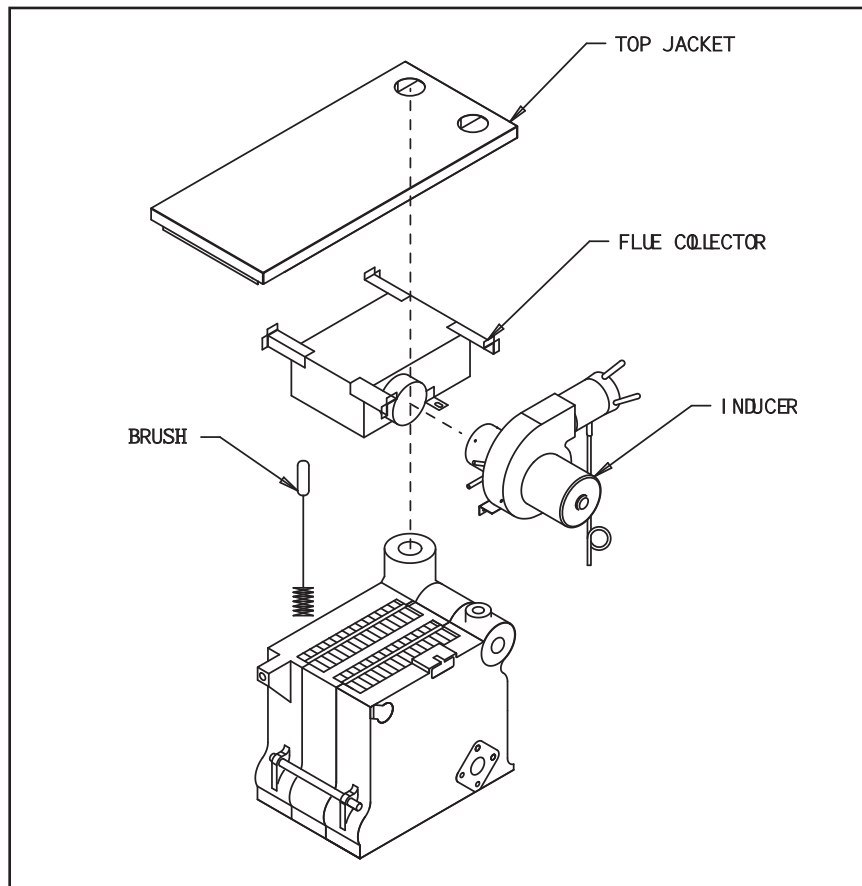

Figure 17. Flue passage cleaning illustration
- A. Flue passage cleaning See Figure 17.